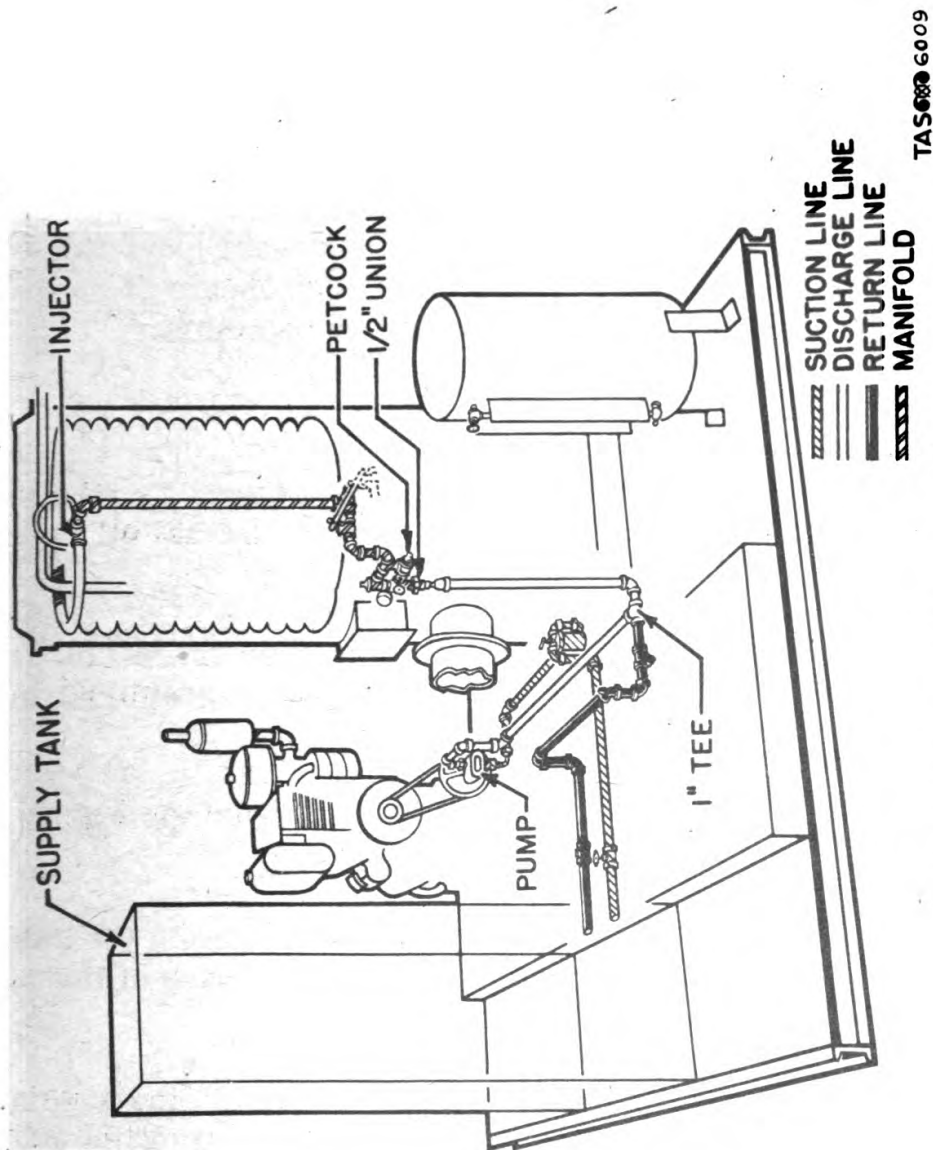

Fig. 9. Special Oil System Piping.
b. Piping. The piping which carries special oil from the special oil supply tank to the injector is diagrammed in figure 9. It consists of four main sections:
(1) Suction line. This extends from the supply tank to the special oil pump.
(2) Discharge line. This extends from the pump to a 1/2-inch union (as shown in figure 9) at the base of the manifold.
(3) Manifold. This name is given to the special oil piping between the union at the end of the discharge line and the injector. On the manifold is a petcock through which special oil may be released in the event of such emergencies as the accumulation of air pockets in the system.
(4) Return line. This extends, as shown in figure 9, from a 1-inch tee on the discharge line back to the supply tank.